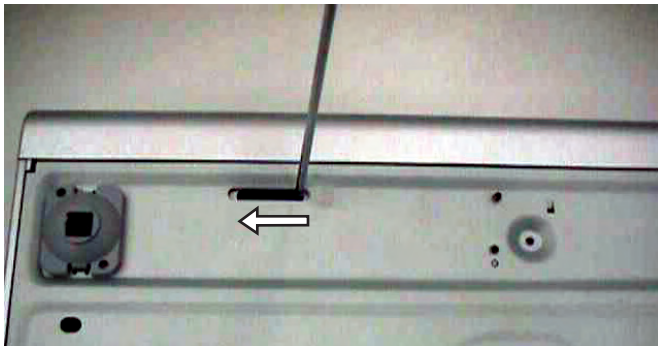

Figure 4-1
- 1) Inserting a minus screw driver and push the lever in the direction as shown in Figure 4-1 to unlock the tray before sliding it out.